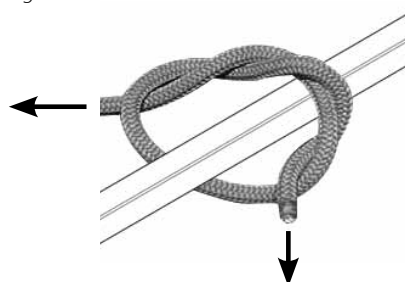

Figure 10
15. a. Tie one end of the provided 9' rope to the link welded onto the stabilizer bar, just in front of the tree hugger. **Be sure your double knot is secure. SEE FIGURE 10.**
b. Tie one end of each of the provided 15' ropes to the platform J-pipes, just in front of the bolt-on tree blade. **Be sure your double knots are secure. SEE FIGURE 10.**